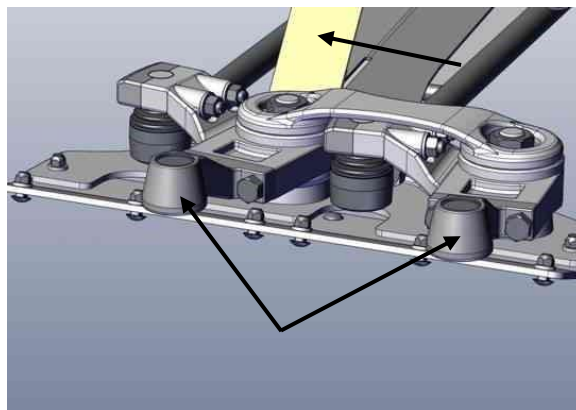

Figure 1
7. Remove the knife drive bearing assemblies. Save shims behind the bearing mounts as they will need to be re-installed during assembly. Keep track of their locations. Figure 1
8. Remove the carriage bolts retaining the front of the paddle to the cutterbar. The carriage bolts are not the same length so note the locations. Figure 1
9. Raise the front of the paddle up and remove the strap from the paddle. Figure 1